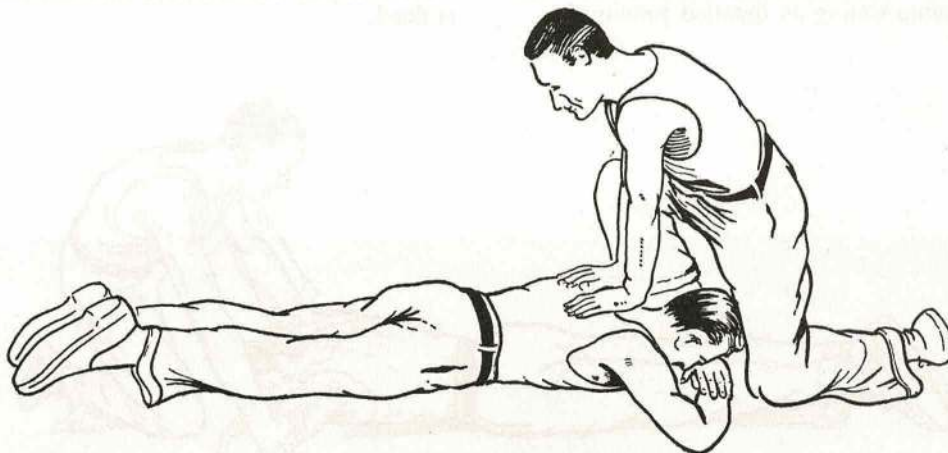

Fig. 6. EXPIRATION
35. **Expiration.** Bend forward with the arms straight and apply light pressure on the casualty by the weight of the upper part of your body, while steadily counting "one, two, three" seconds. This forces the air out of the casualty's lungs (Fig. 6).